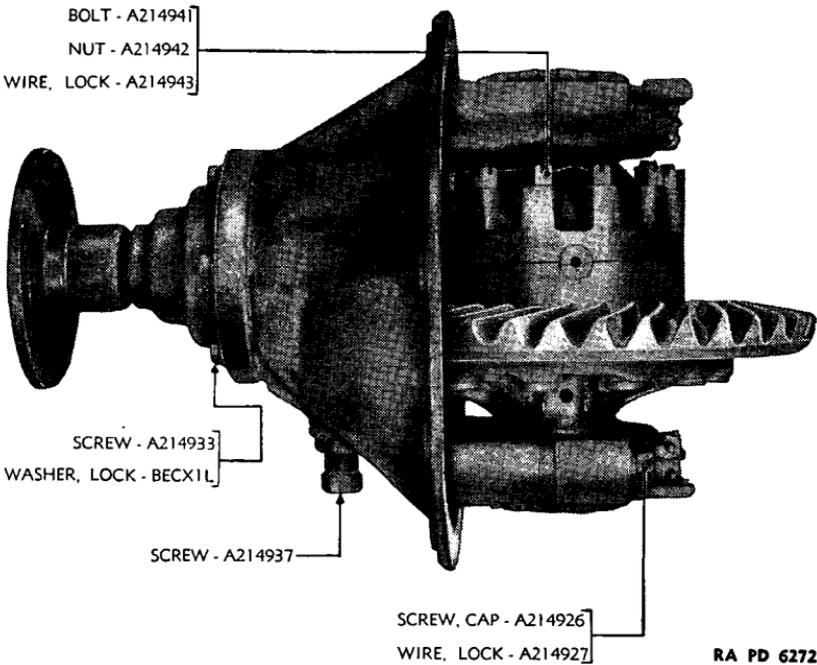

FIGURE 51.—Rear axle drive pinion, installed.
(1) Remove drive pinion assembly— $\frac{5}{8}$ -inch socket wrench. Remove six  $\frac{7}{16}$ -inch cap screws (A214933) and lock washers holding pinion outer seal retainer and bearing cage to housing and pull out assembly (fig. 51).